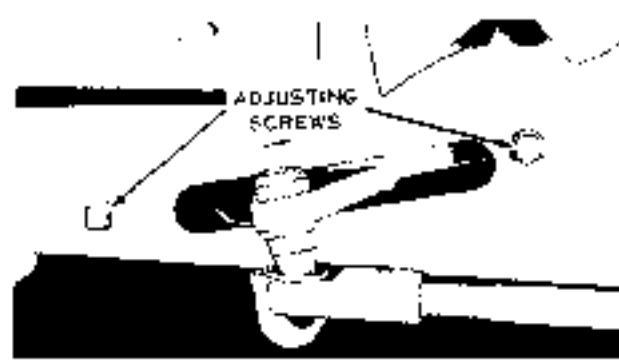

Figure 17
- You will find a slot in the right hand frame at the rear of the steering drag link where it connects to the steering gear. (See Figure 17.) Near each end of this slot is a square head setscrew, with lock nut, inserted in the frame.